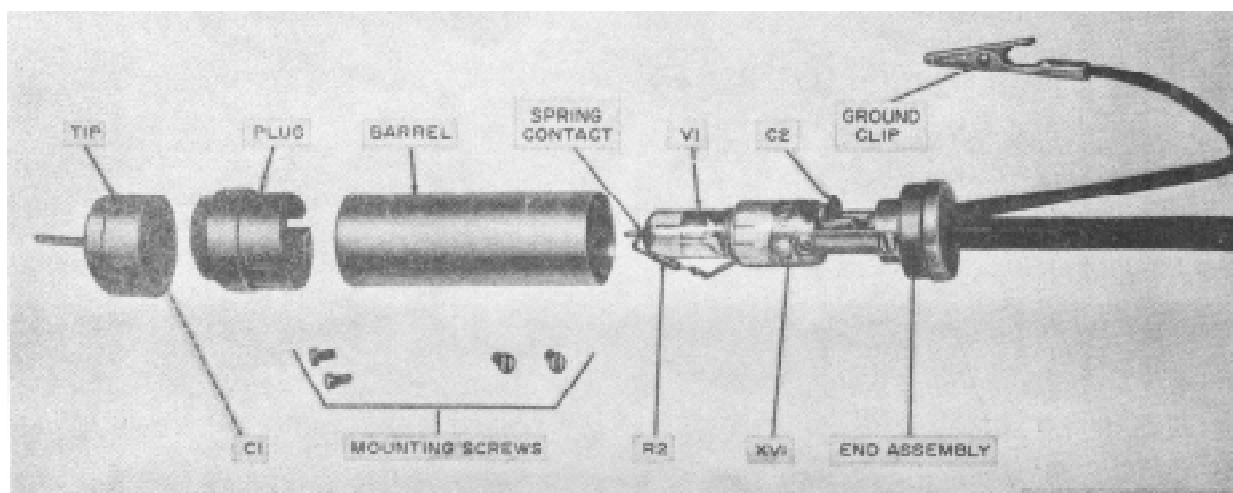

Figure 7-3. Unchanged Multimeters ME-26B/U and ME-26C/U, AC probe disassembled.
h. Mount the standoff insulators on XRT-1 and XV-5 (fig. 7-3).
v. Using hookup wire, measure and cut as necessary the amount of wire necessary to go between the bottom of R24 and pin 1 of XRT-1. Route this wire close to the chassis as shown in figure 7-3. Strip off one-half inch of insulation from each end.